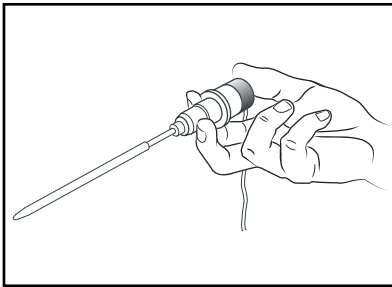

Figure 7 - Probe Ejection
- Observe the displayed temperature and remove the probe from the patient's mouth. Hold the probe as you would a syringe and press the probe ejection button at the base of the probe to eject the used probe cover into a waste container (see Figure 7).